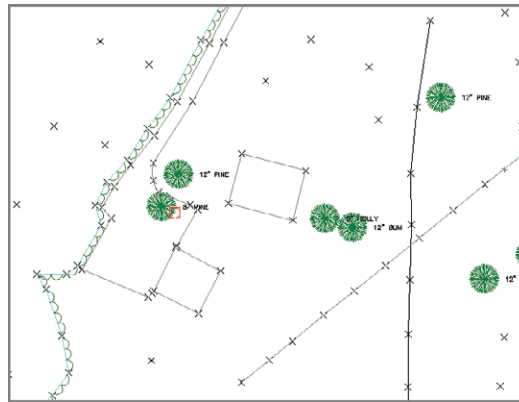

FIGURE 3.4 The appearance of the drawing makes more sense now that features such as fence lines and treelines have been drawn on the appropriate layers.
10. In the Process Linework dialog box, select Essentials for Current Figure Prefix Database and click OK. Civil 3D redraws the linework, this time doing so on the appropriate layers. This is evident in the linetypes that are applied to the treelines and fence lines, which are now appropriately represented on the drawing (see Figure 3.4).